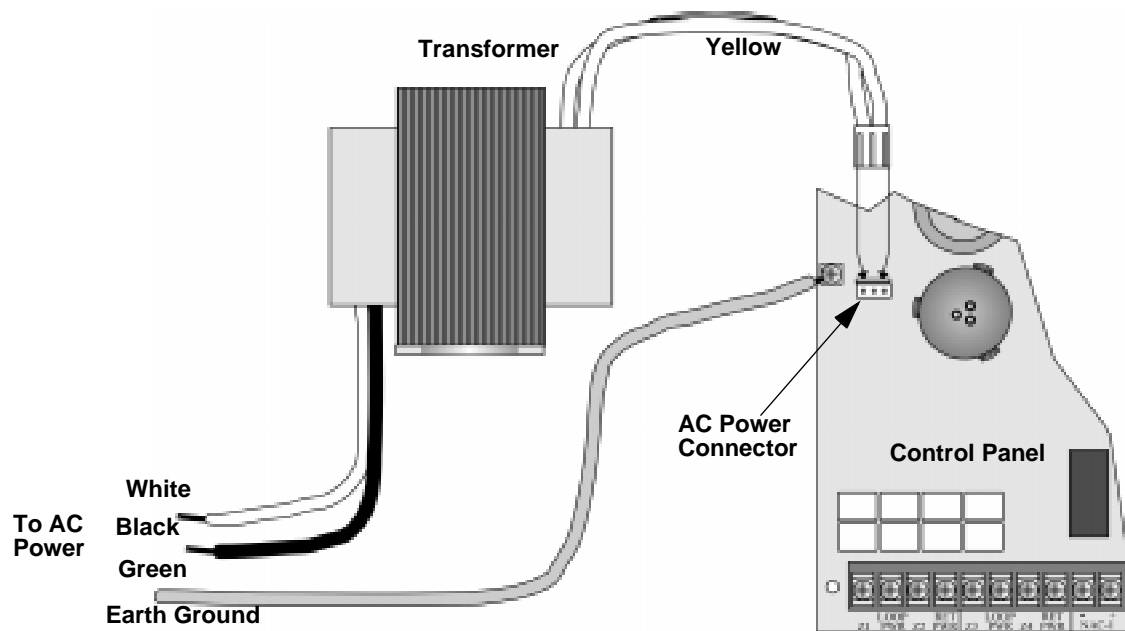

Figure 4-1 AC Power Connection
At installation, connect the transformer AC inputs to the AC power source as shown in Figure 4-1. It may be necessary for a professional electrician to make this connection.
1. Unplug the AC power connector from the SK-4224 control panel. See Figure 4-1.
4. Reconnect the AC power connector to the SK-4224 control panel. See Figure 4-1.